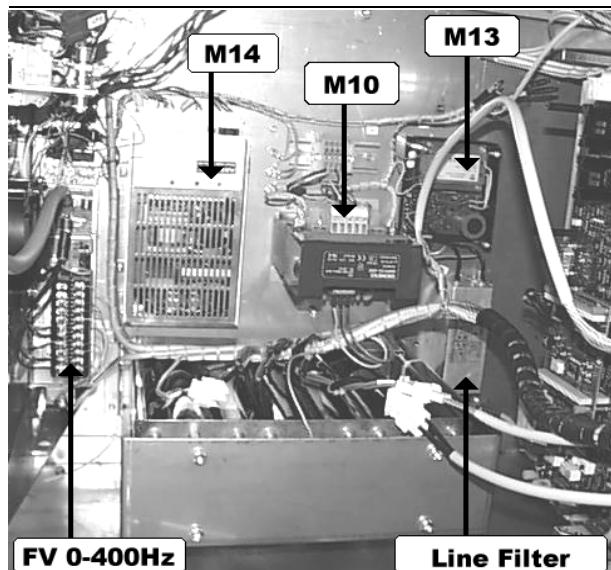

Fig. 1
- Check the operating voltages of the ARCOSKOP according to tables 1 and 2 (Fig.1 - 4).